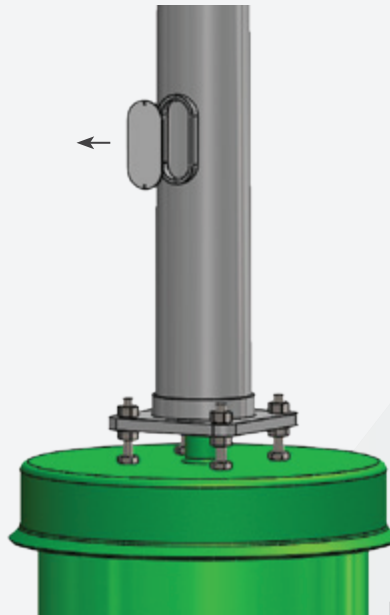

Figure 1
- Access the hoses by removing the cover of the service door located approximately 18 in. from the base of the pole (Figure 1).
Remove the cover from the service door at the base of the pole to gain access to the pole lifting hoses (Figure 1).